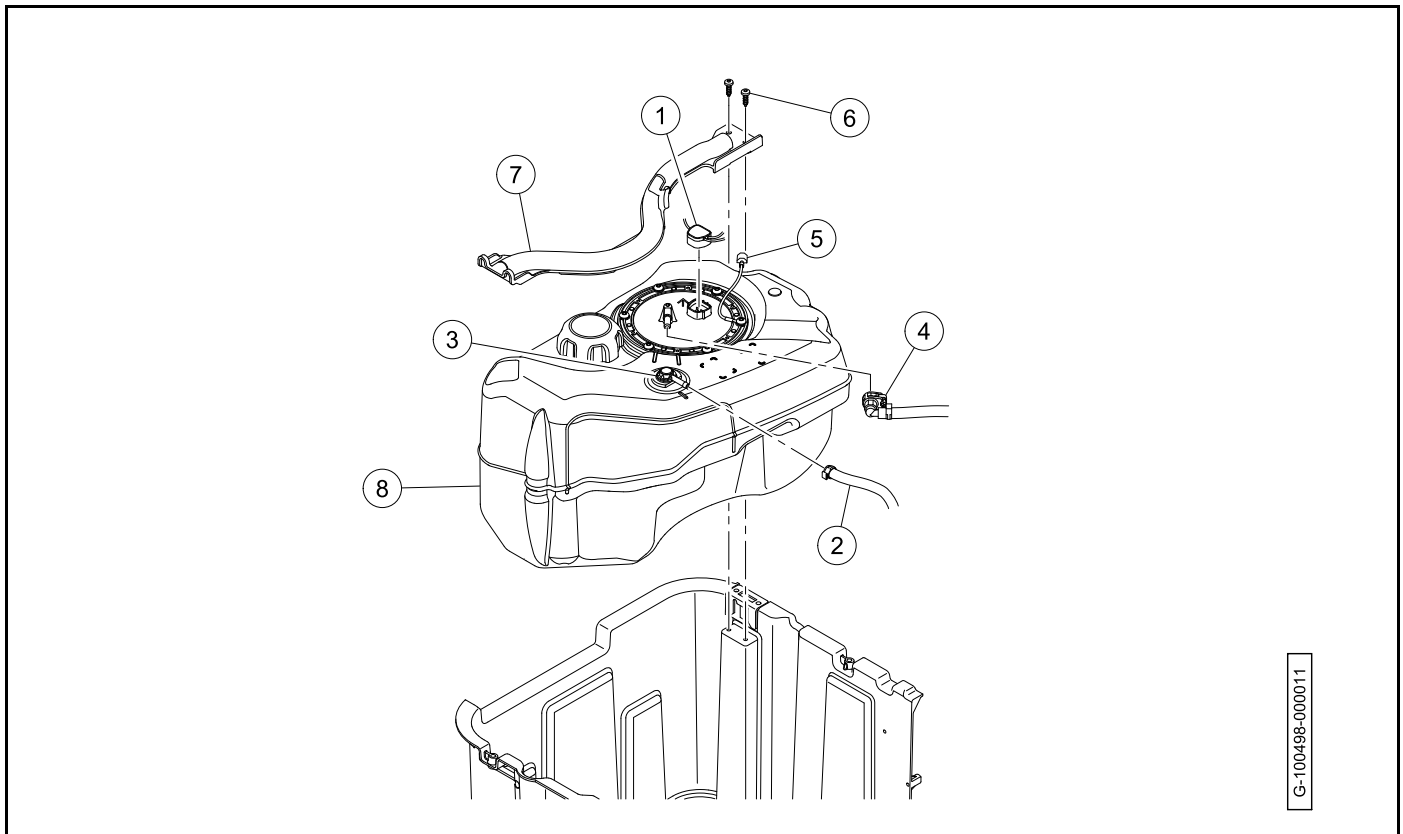

Figure 21-22 Fuel Tank Installation
1. Install the fuel tank (8) in vehicle (**Figure 21-22, Page 21-23**).